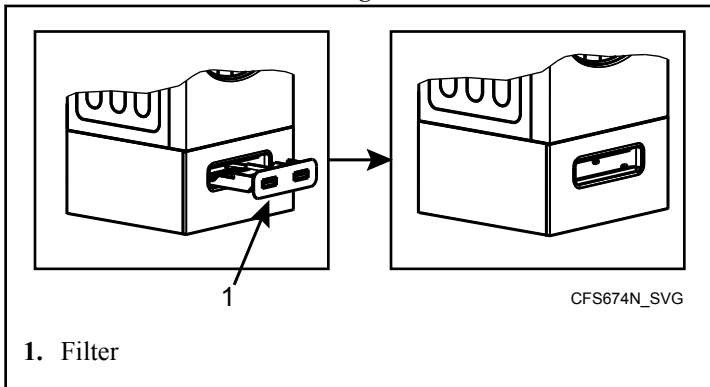

Figure 47
1. Remove the filter. Refer to *Figure 47*.